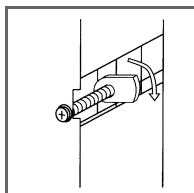

Figure 2-2 Pawl Screw Used to Attach Controller to Panel.
3. Insert the Controller into the panel opening and turn the pawl screw on each side of the front panel to engage and secure the Controller to the panel. See Figure 2-2. Do not overtighten.